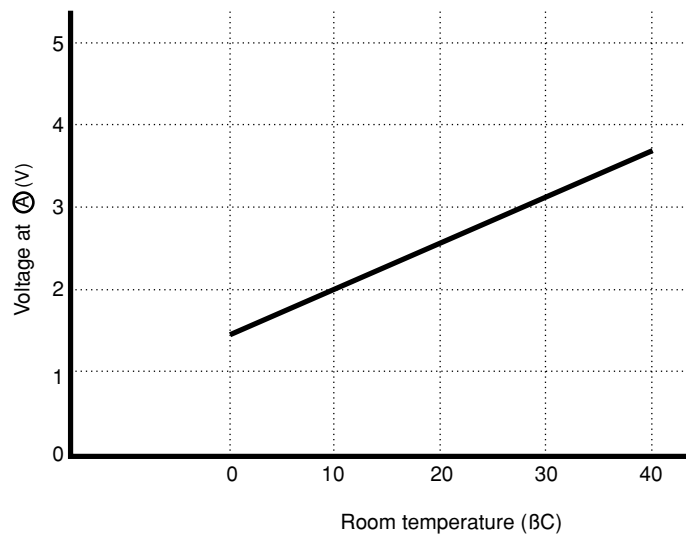

Fig. 8-2
- The voltage at (A) depends on the room temperature as shown in Fig. 8-2.